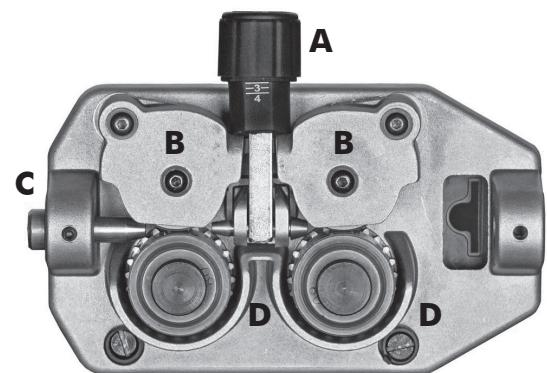

Figure 7
- Loosen and lower the plastic knob (A) (Fig.7). Open the pressure arm (B) of the feeder. Extract the wire from the torch liner.
- When the wire is disconnected, grasp it with pliers so that it cannot exit from the spool. If necessary, straighten it before inserting it in the wire input guide (C). Insert the wire on the lower roll (D) and in the torch liner.